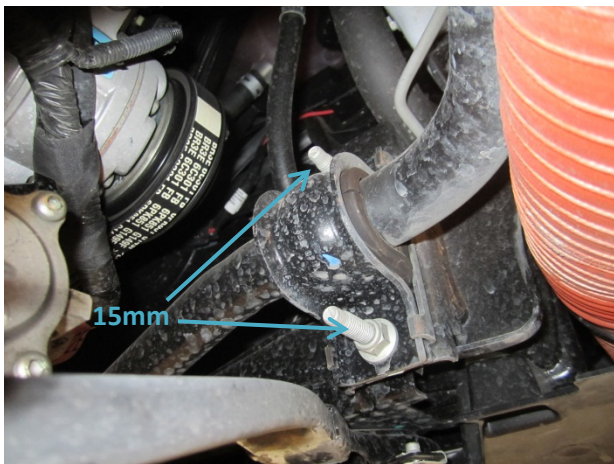

Figure 3
4. Remove the bushing brackets from the frame mount points (15mm deep socket). See Figure 3. The bolts are held in place by spring clips and will be reused for the installation of the new bar.